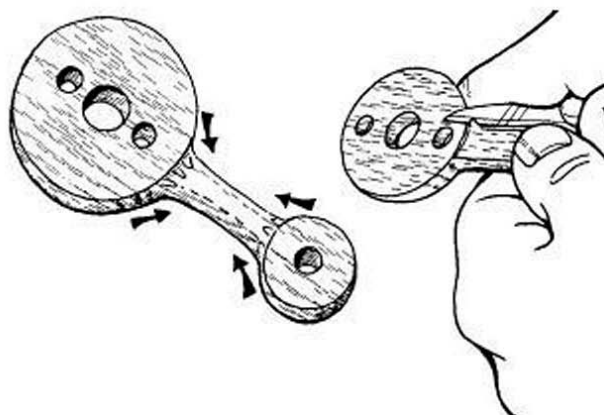

FIGURE 26-5
- 3** When you have achieved the cut-out for the crank handle, first drill the two peg-lixing holes—through the crank and the small wheel—and then take a small knife and trim the arm to a rounded finish (Figure 26-5).